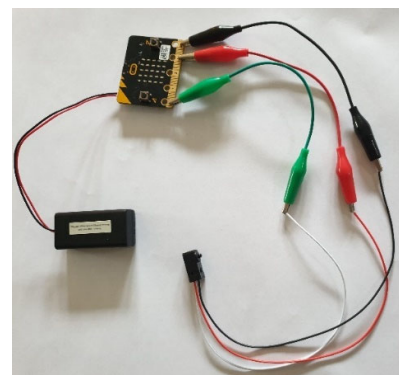

Figure 22
The receiver (Figure 22) has three leads running from it: red, black and white.
3. Connect the white lead to the pin you want the input to communicate with (**pin 0** is used in Figure 22).